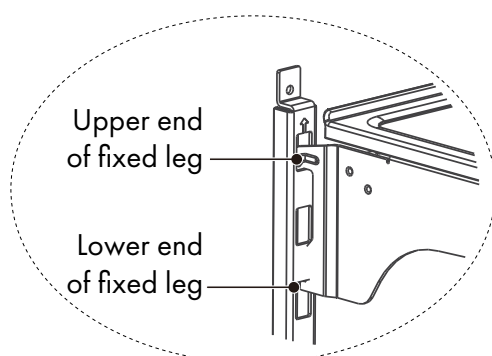

Figure 1
1. Firmly hold the front edge of shelf and tilt the shelf inwards until the lower end of the fixed leg is separated from the slot of supporting iron, as shown in Figure 1.